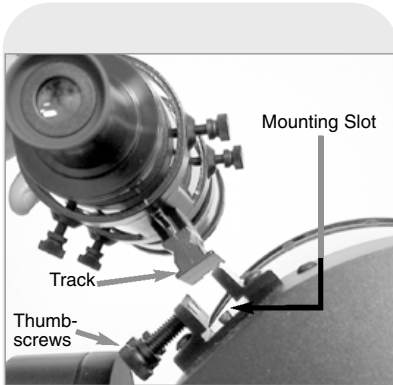

Fig. 9: Viewfinder Assembly.
1. Slide the track on the bottom of the viewfinder into the slot in the viewfinder mounting assembly. See **Fig. 9**. To secure the viewfinder to the mounting assembly, tighten the two thumbscrews (**Fig. 9**) to a firm feel only.